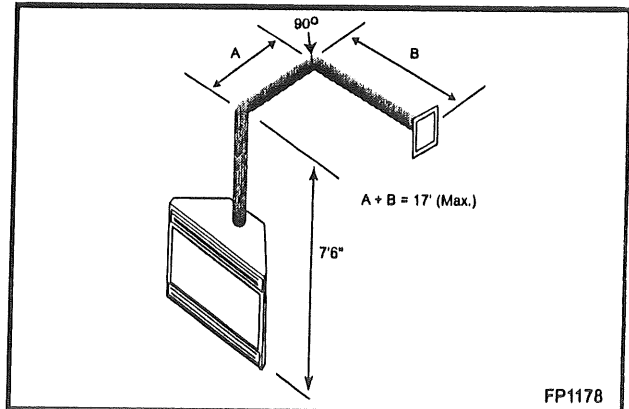
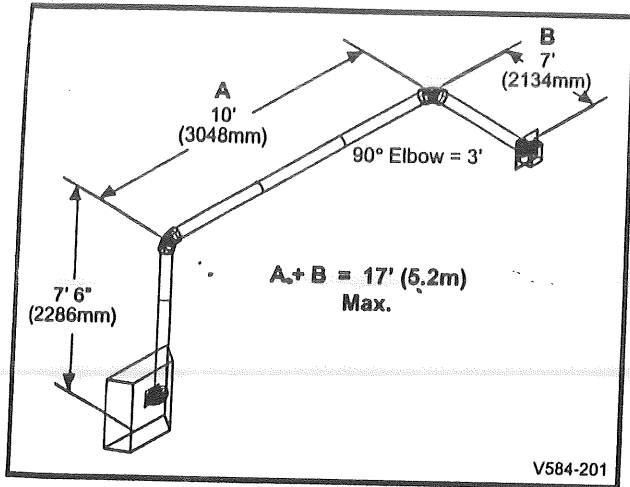

Fig. 25a Horizontal run reduction.
Fig. 25b Maximum vent run with elbows.
- If a 90° elbow is used in the horizontal vent run (level height maintained), the horizontal vent length is reduced by 36" (914 mm). (Fig. 25a and Fig. 25b) This does not apply if the 90° elbow is used to increase or redirect a vertical rise. (Fig. 25b)
In Fig. 25a and Fig. 25b, Dim. A plus Dim. B must not be greater than 17' (5.2m).